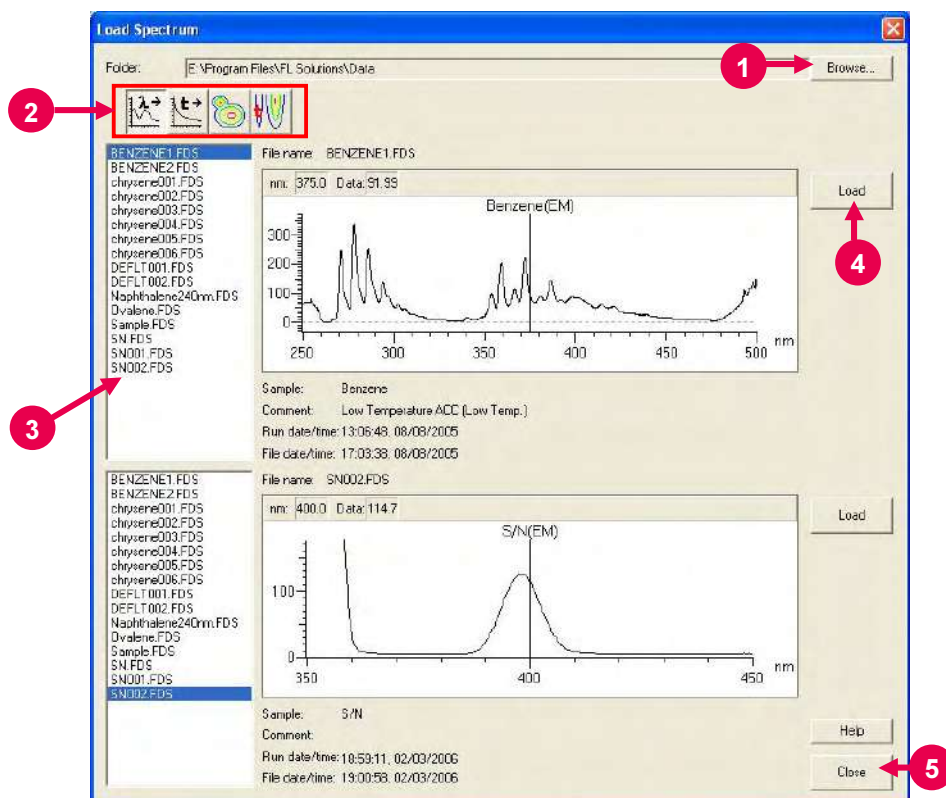

Fig. 8-31
A window as in Fig. 8-31 will open.
- (2) Click the **Browse** button. (Refer to ① in Fig. 8-31.) A window as in Fig. 8-29 will appear. Specify a folder for spectrum loading.
- (3) Select a file type button. (Refer to ② in Fig. 8-31.)
- (4) Select a desired file from the data file list. (Refer to ③ in Fig. 8-31.)
- (5) Click the **Load** button. (Refer to ④ in Fig. 8-31.) A spectrum displayed on the preview window will be loaded and displayed on the data processing window.
- (6) To exit the file loading, click the **Close** button. (Refer to ⑤ in Fig. 8-31.)